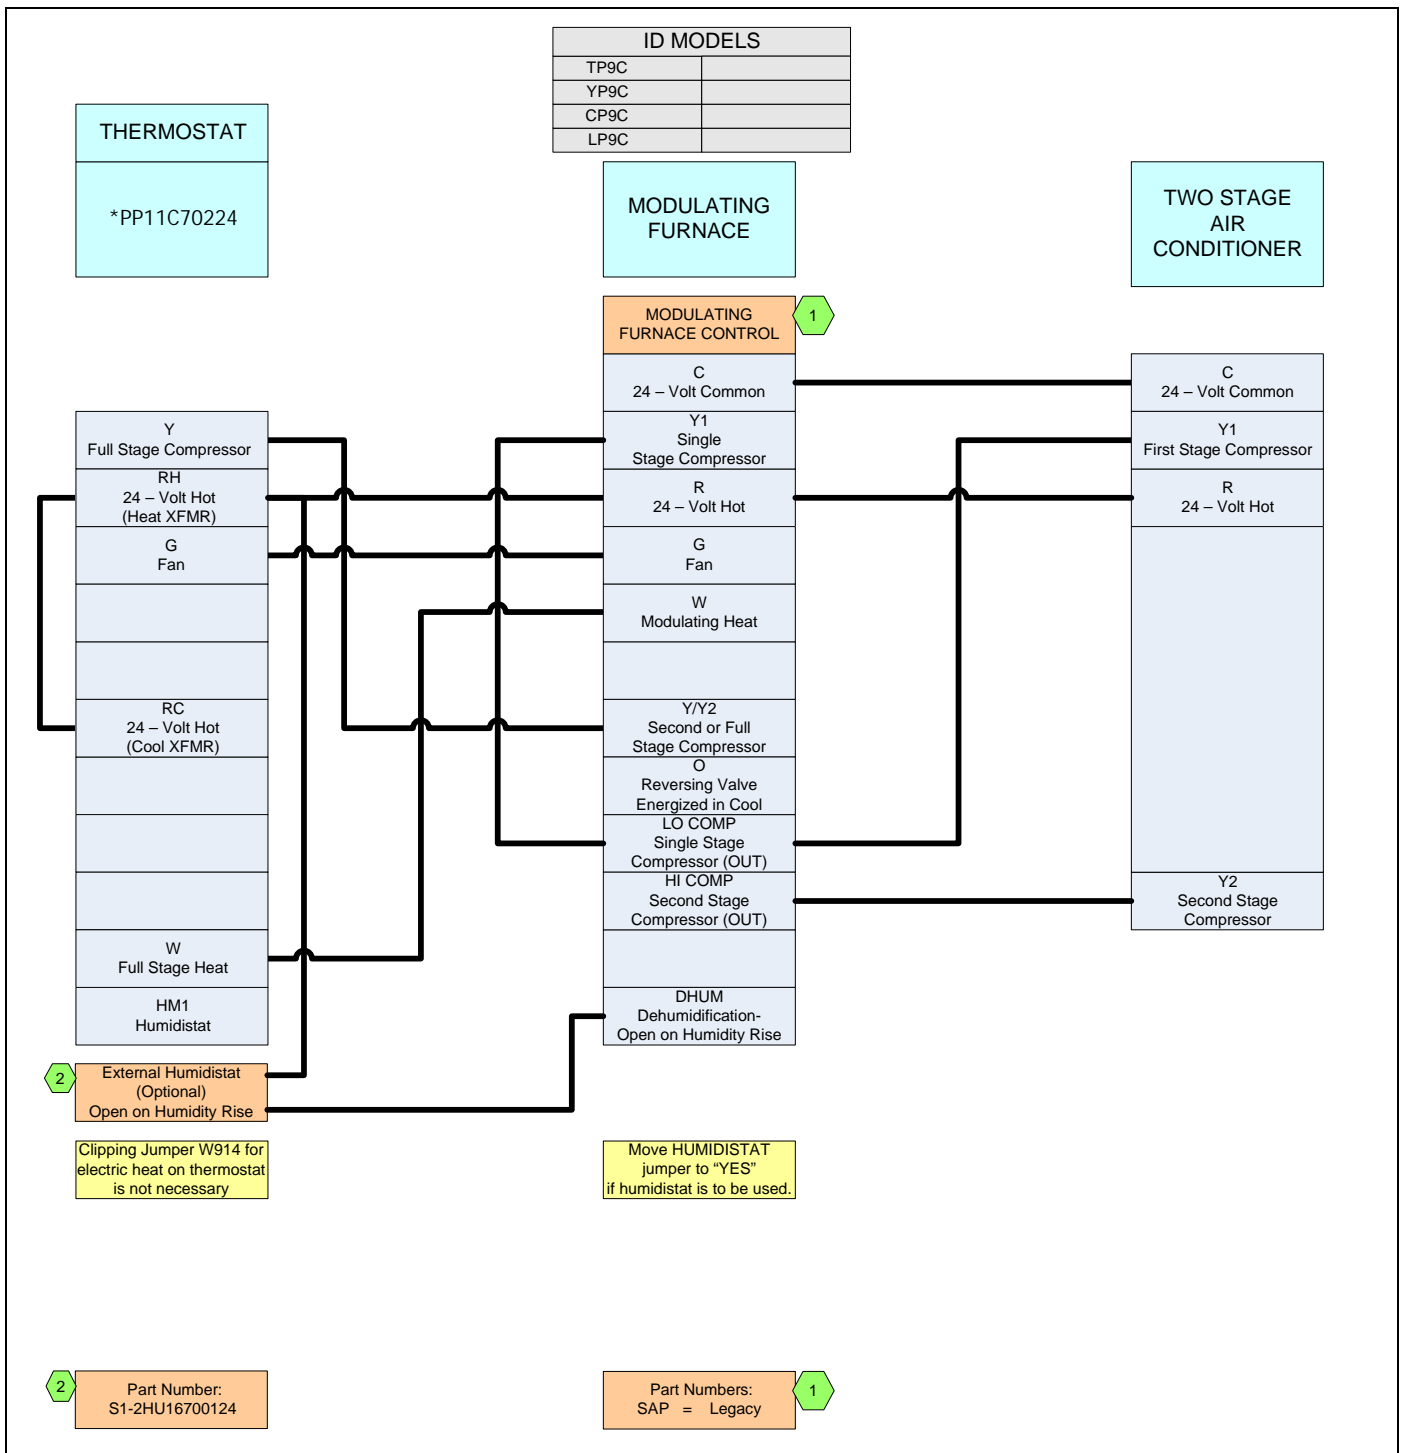

FIGURE 23: Thermostat Chart - Two Stage Air Conditioner with Single Stage Thermostat – Variable Speed Modulating Furnace
**For Two-Stage A/C using a Single-Stage Thermostat** - connect the low voltage wiring as shown in Figure 23.